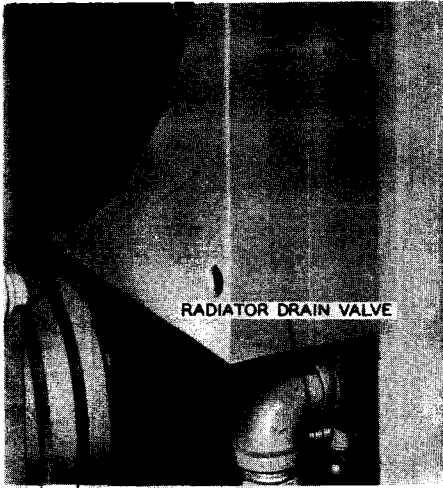

Figure 89. Radiator Drain
1. While the coolant is still hot, open the radiator drain valve and the engine block drain valve, Figures 89 and 90.